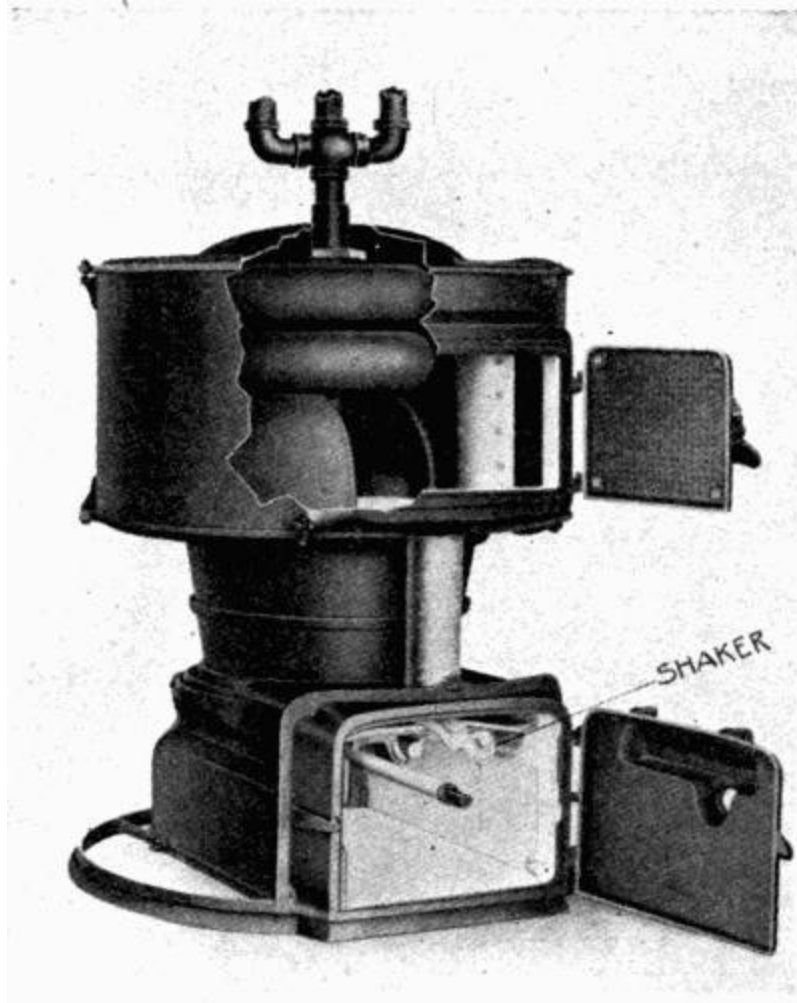
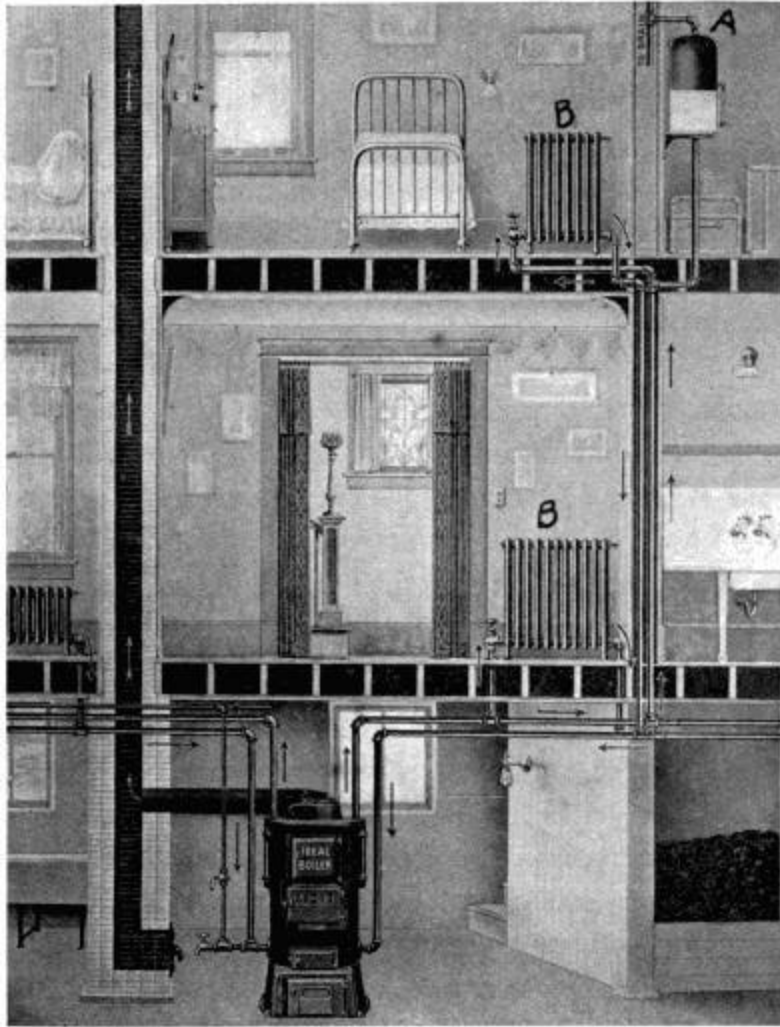
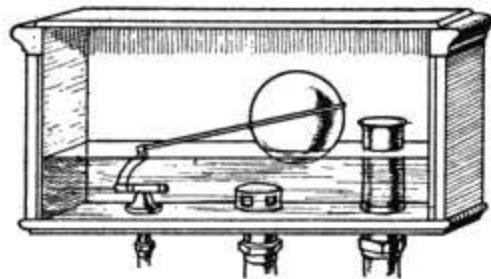
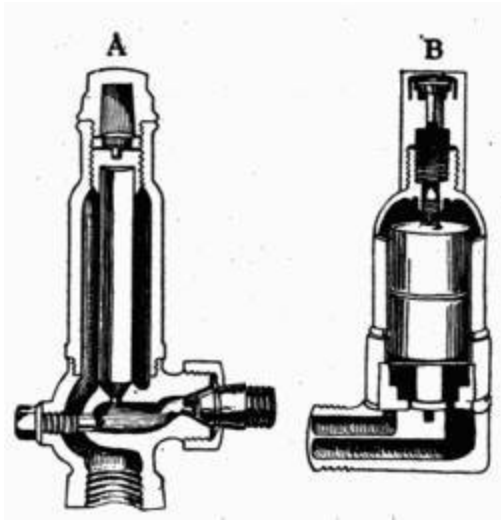

FIG. 30. Garland furnace with hot-water boiler.
FIG. 31. Hot-water heating system.
FIG. 32. Expansion tank.
FIG. 33. Vents for radiators.
63. Equipment for Hot-Water Heat. The hot-water system of heating a house consists of a boiler in the basement or below the level of the lowest radiator. This boiler is designed to heat water as it circulates through coils over the fire (Fig. 30). From the boiler, pipes lead to radiators and an expansion tank, and return pipes bring the cold water back to the bottom of the boiler (Fig. 31).
67. Expansion Tank. The expansion tank (A, Fig. 31, and Fig. 32), placed somewhat higher than the top of the highest radiator, is fitted with an overflow, for water expands as it is heated. If the expansion tank is closed so that the overflow pipe will not open except under pressure after the air in the tank has become compressed by the expansion of the water, a higher temperature in the pipes may be reached, but such a furnace must be given more careful attention than one with an open expansion tank. Learn to know the parts of a heating system and how they operate before trying to manage it.
69. Radiators. Radiators (B, Fig. 31) are made of rather complicated coils of pipe, so often an accumulation of air lodges in them. This interferes with the circulation of the water and the radiator does not get hot. There usually is a vent (A and B, Fig. 33) attached to each radiator to let out air which collects there. If a radiator does not heat well, open the air vent until the air ceases to flow from it and water comes; then close it. Valves should be placed at places where cold water collects in bad plumbing.